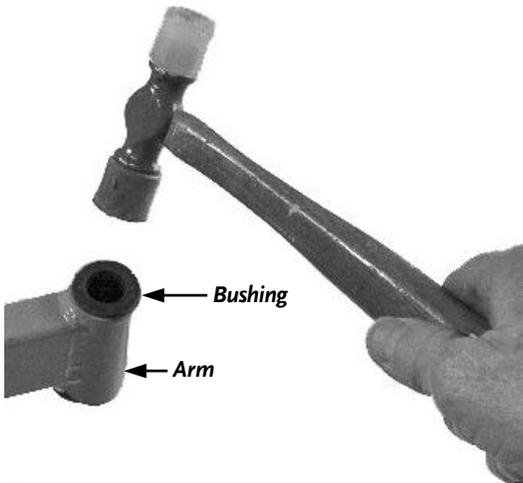

Figure 4
1. Insert two (2) black Castor Wheel Spindle Bushings (one on top and one on the bottom) into a Front Arm of the Lawn Deck Frame. You may need to tap the Bushings in with a Hammer (**Figure 4**).